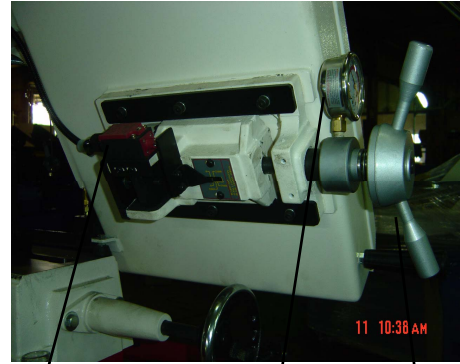

Fig.7
To tension the blade, turn the blade tension handle (A) (fig. 7) clockwise. A pointer and tension scale (B) is located underneath the wheel. The scale is graduated to indicate blade tension of 20,000, 30,000 and 35,000 pounds per square inch (psi). For carbon blades, the blade should be tensioned at 20,000 psi. For bi-metal blades (similar to the one supplied with the machine), the blade should be tensioned at 30,000 or 35,000 psi. Always release blade tension at the end of each working day to prolong blade life. Make sure the blade is tensioned correctly before checking or adjusting tracking. The blade is tracking properly when the back of the blade is just lightly touching the wheel flanges of both wheels while the machine is running. If the blade is not touching the wheel flanges, tighten or loosen screw C (fig. 7) until the blade tracks properly.